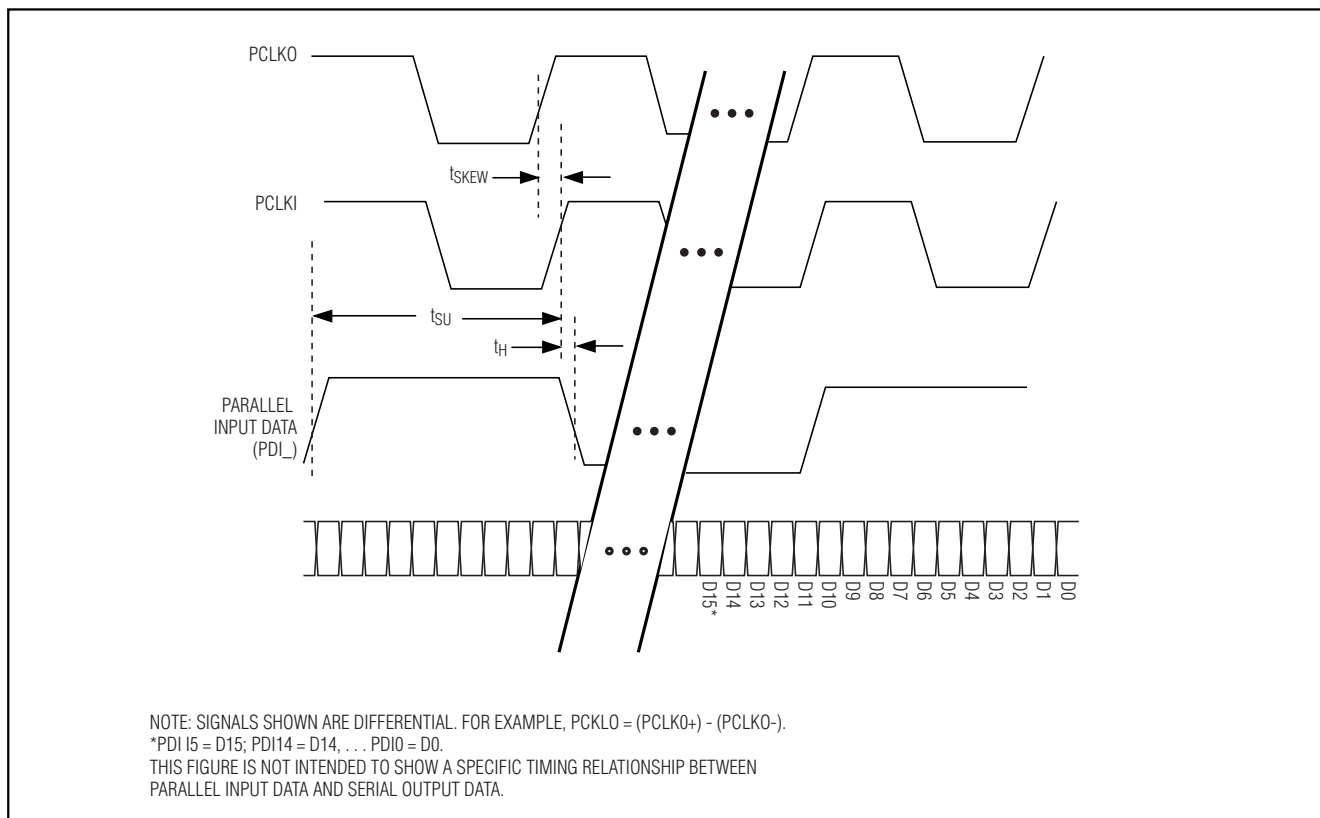

Figure 1. Timing Diagram
**Note 2:** Setup and hold times are relative to the rising edge of PCLKI+, measured by applying a 155.52MHz differential parallel clock with rise/fall time = 1ns (20% to 80%). See Figure 1.
defined with respect to the parallel clock-output signal (PCLKO). PCLKO is the synthesized 2.488Gbps internal serial-clock signal divided by 16. The allowable PCLKO to PCLKI skew is 0ns to 4ns. This defines a timing window after the PCLKO rising edge, during which a PCLKI rising edge may occur (Figure 1).